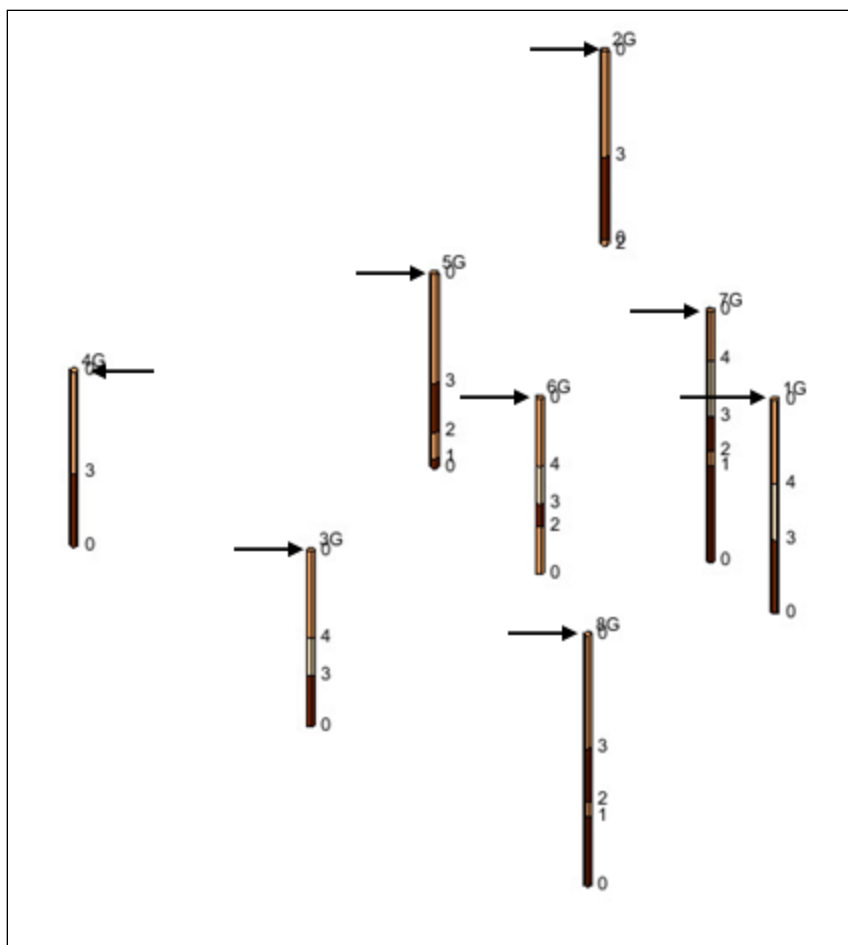

Figure 8 Contacts for Horizon 5
1. Using the **Select Contacts**  tool and the Shift key, select the top contact on each borehole as shown in Figure 8.